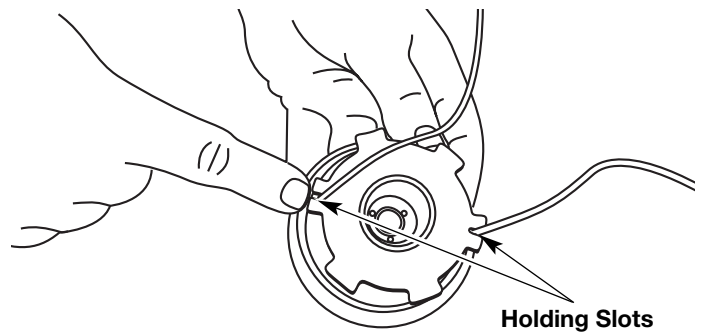

Fig. 18
12. Insert the ends of the line into the two holding slots (Fig. 18).